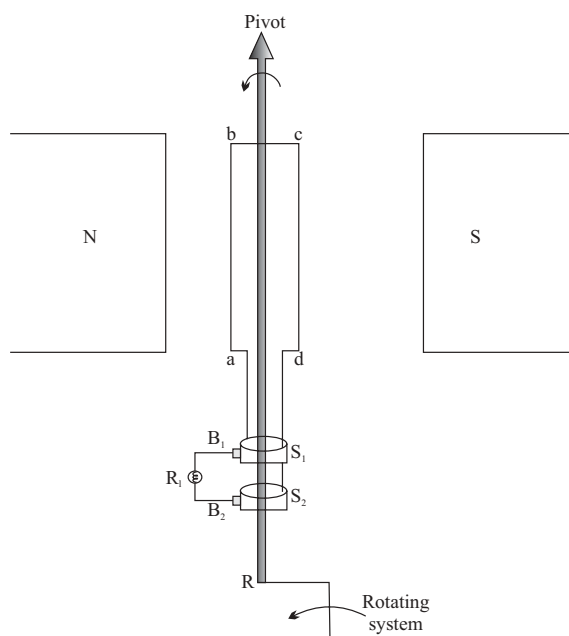

Fig. 13.8 An alternating current (a.c.) generator
The construction and working of an a.c. generator is shown in Fig. 13.8.
- v) **Contact brushes  $B_1$  and  $B_2$**  are metallic (or carbon) brushes, kept in contact with  $S_1$  and  $S_2$ , through which current is taken out and passed in external circuits or appliances connected across them. The appliance connected across the generator is shown by  $R_L$  in Fig. 13.8 and is called load.